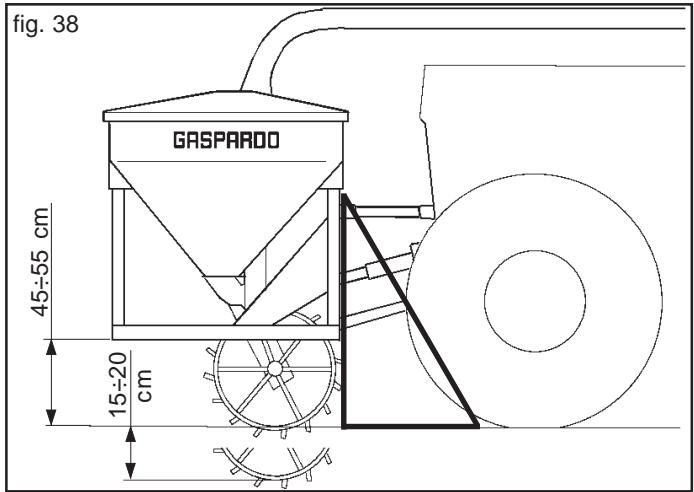

fig. 38
- 2) Connect the third upper point (2, Fig. 36); the pin will be blocked with the appropriate split pin; use the adjusting tierod (3, Fig. 36) to keep the equipment perpendicular to the ground (Fig. 38)
- 5) Raise the front machinery and remove the feet. In order to guarantee the rotation of the transmission wheel, adjust the working height of the machinery from the ground (45÷55 cm Fig. 38). This distance must remain constant during operation.
- 6) In working conditions, ensure that the driving wheel adheres to the ground. Use the chain rings (C), shown in Figure 42, to set a travel of about 15 to 20 cm (Fig. 38).